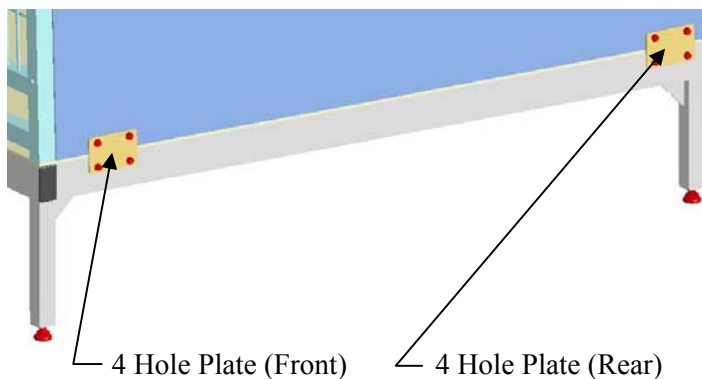

Figure 23
2. After assembling the kennel system, locate the Four Hole Mounting Plate. Mount the first Four Hole Mounting Plate over the side of the Floor and the Side Panel on the front side of the kennel with (4) 1" Tek Screws as shown in **(Figure 23A)**. Then mount the next Four Hole Plate on the rear side of the kennel with (4) 1" Tek Screws as shown in **(Figure 23)**. Repeat the same instructions on the other side of the kennel system.